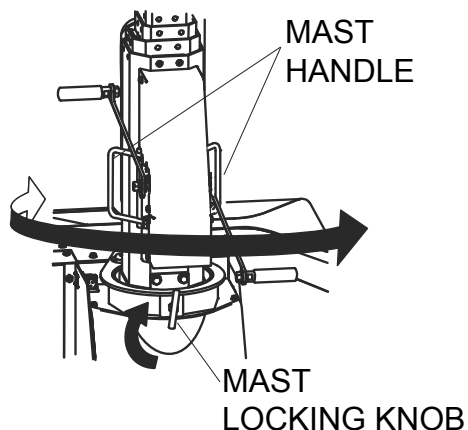

Figure 8. Rotating the Mast
1. With the mast in full vertical position, unscrew the mast locking knob to release the mast for rotation (Figure 8).